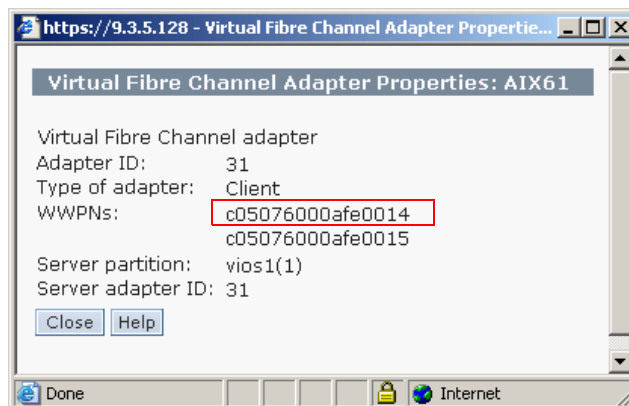

Figure 2-26 Virtual Fibre Channel client adapter Properties
- ii. Figure 2-26 shows the properties of the virtual Fibre Channel client adapter. Here you can get the WWPN which is required for the zoning.